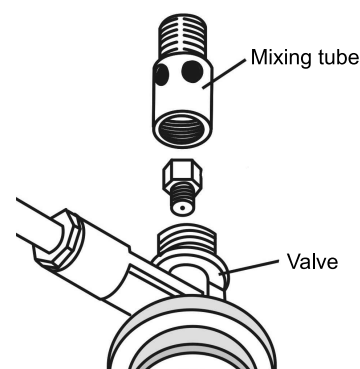

Fig. 4
- If flaring occurs, firstly check that the air holes in the mixing tube are not blocked (See Fig. 4). Flaring may also occur if food with a high fat content is cooked with the heat setting too high. In this instance, reduce the heat setting by adjusting the control knob.